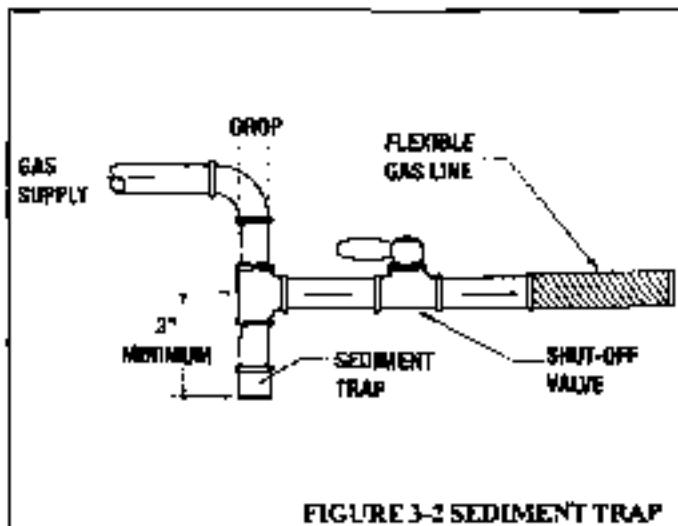

FIGURE 3-2 SEDIMENT TRAP
- 3 Connect the shut off valve (not included) between the flexible gas line (included) and the gas supply line. Refer to Figure 3-2.
- 5 Install a sediment trap (not included) on the gas line on the supply end of the gas valve. Refer to Figure 3-2.